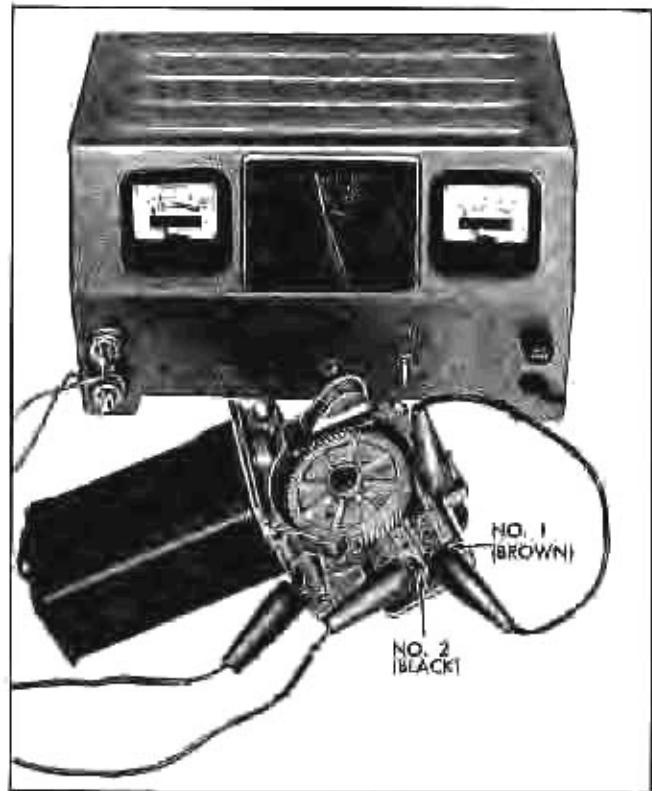

Fig. 11-100 Checking Wiper
Loosen end play adjusting screw lock-nut (Fig. 11-100) and tighten the adjusting screw until finger tight. Back off $\frac{1}{4}$ turn and tighten lock-nut.
2. With ignition on, check for 12 volts at feed wire terminal that connects to the No. 2 wiper terminal (Fig. 11-100). If no voltage reading was obtained, check car wiring.
3. If correct voltage is obtained in step (2), connect 12 volts to No. 2 terminal (Fig. 11-100) and connect a jumper wire from the No. 1 terminal to ground. If wiper operates, an inoperative dash switch or broken wire to dash switch is indicated.
4. If wiper fails to operate in step (3) remove body parts as necessary to gain access to the wiper transmissions and linkages. Disconnect transmission arms from wiper crank arm and recheck to see if wiper will operate. If wiper operates correctly, trouble is located in the transmissions. If wiper fails to operate, remove wiper from car for bench check.
Connect wiper to 12 volt system as shown in Fig. 11-100 and note current draw. The following ammeter readings will indicate the type of trouble to look for.
a. Check to see that wiper motor lead that connects to the No. 1 terminal (Fig. 11-100) is not grounded.
Connect wiper as shown in Fig. 11-100 and note current draw. If current draw *does not* exceed 4.5 amps a weak circuit breaker is indicated and the brush plate and circuit breaker assembly should be replaced.
1. Resolder leads to terminal board. Brown to No. 1 terminal, Black to No. 2 terminal. (See Fig. 11-100 to identify terminals.)